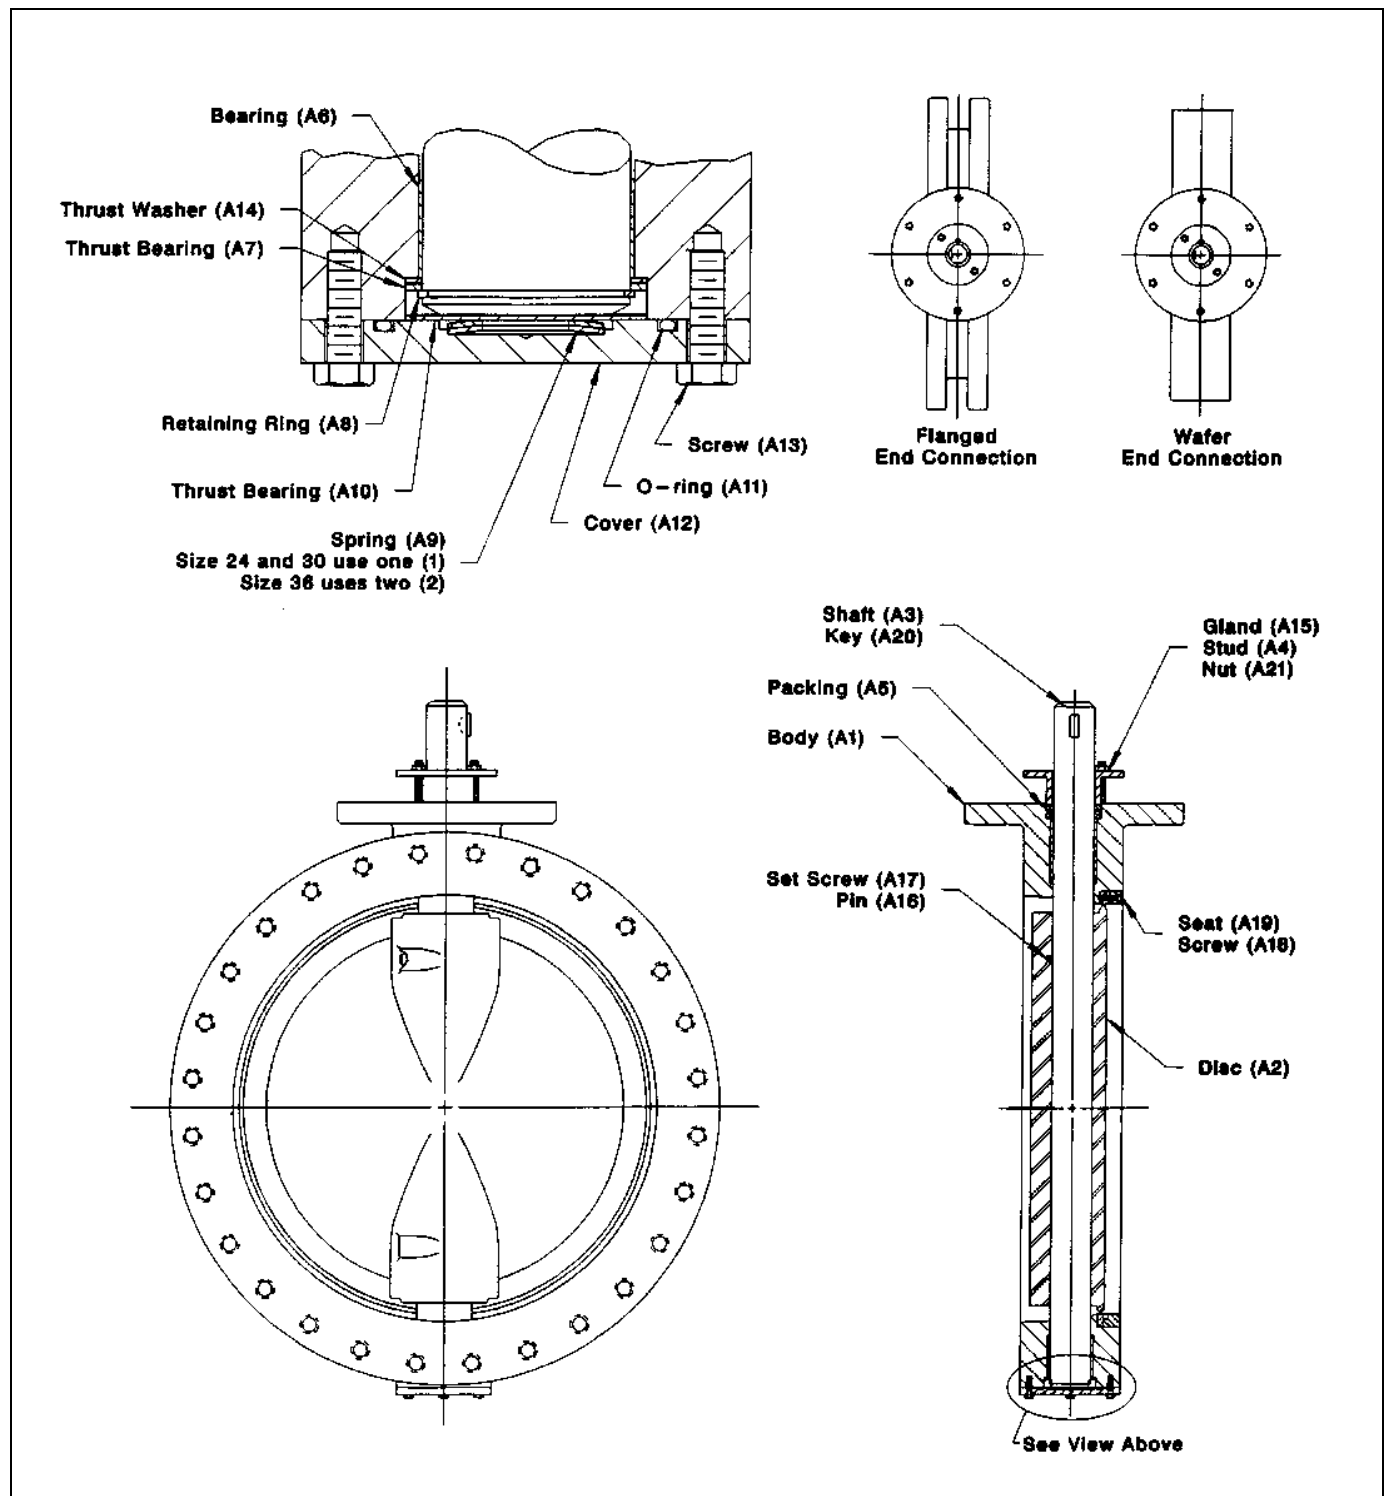

Figure 2 - Component Identification - Assembled
6. If the new packing ring material is rubber, apply a light film of silicone grease such as Dow Corning 44 to the inside and outside diameters of each of the packing rings. **Do not lubricate PTFE packing rings.** Slide the rings, one ring at a time, over the valve shaft and into the packing chamber as shown in Figure 2. Push the rings firmly in place. Do not use a sharp or pointed tool.
3. If the packing (A5) material is rubber, apply a light film of light grease such as Dow Corning 44 to the inside and outside diameters of each of the packing rings. Do not lubricate PTFE packing rings. Slide the rings one ring at a time into position in the body (A1) as shown in Figure 2.